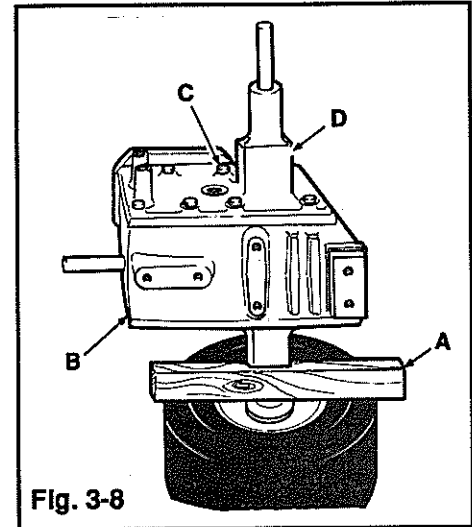

Fig. 3-8
(Fig 3-8)
On single speed models, the 56T bevel gear (V, Fig. 3-8) can be removed from the pinion shaft if replacement is necessary. A woodruff key is used to prevent the bevel gear from turning on the pinion shaft.
Remove four (4) 5/16 ferry head bolts (J) from differential case. To open case from this point, it may be necessary to set the differential/axle assembly onto the end of the right-hand axle (refer to Fig 3-8), and then tap gently down on the bull gear with a soft-faced mallet. The remaining internal parts inside the differential can be disassembled, if necessary, by removing snap rings. Pay close attention during disassembly of these items so they can be re-assembled in the proper manner.